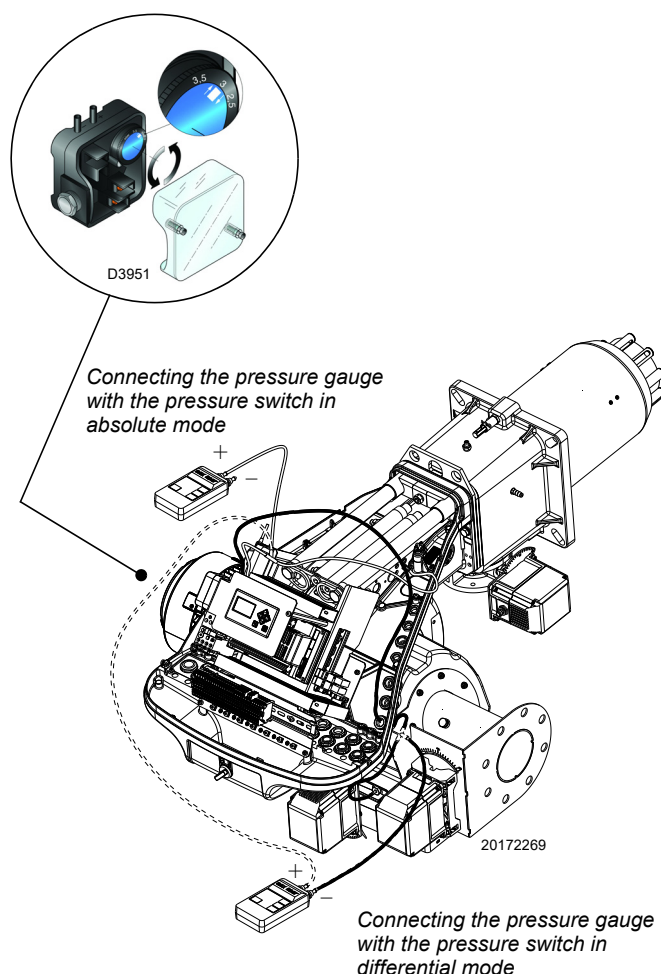

Fig. 30
- Adjust the air pressure switch (Fig. 30 on page 27) to the start of the scale.
Adjust the air pressure switch (Fig. 30) after having performed all other burner adjustments with the air pressure switch set to the start of the scale.
The connection of the pressure gauge is shown in Fig. 30.
In this case also, the pressure gauge must be connected in differential mode, as shown in Fig. 30.